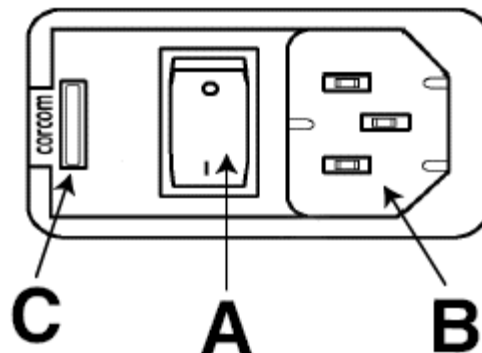

Figure 3.4 – AC Power Entry Module (90IP)
A. Power ON/OFF Switch, Figure 3.4 - A two-position toggle switch on the back panel Power Module that interrupts/completes the power circuit. [ON = (|), OFF = (O)]
MAKE SURE THE REAR PANEL POWER INPUT CONNECTOR IS IN THE CORRECT POSITION AND THE CORRECT FUSE IS INSTALLED BEFORE APPLYING AC POWER. See Figure 3.4 below.